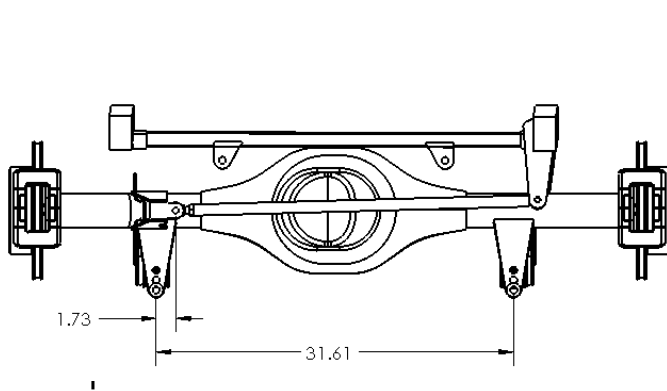
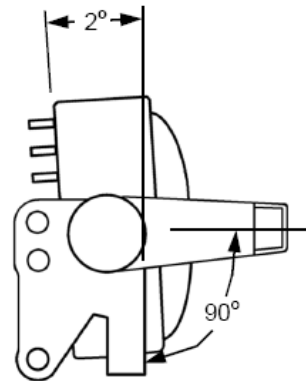

Figure 4- Panhard Bracket location
Figure 5- Pinion Angle
- 4.) If you are installing the 4-link and Panhard brackets on your own housing, they are located 31.6" apart. They are centered equal distance from the outer ends of the housing. See **Figure 4**. The Panhard bracket is positioned as shown in **Figures 4 & 5**. If you purchased an axle housing from HEIDTS, the brackets are already installed with a 2° down pinion angle. You can then fine tune the angle to match your engine. See **Figure 5**.